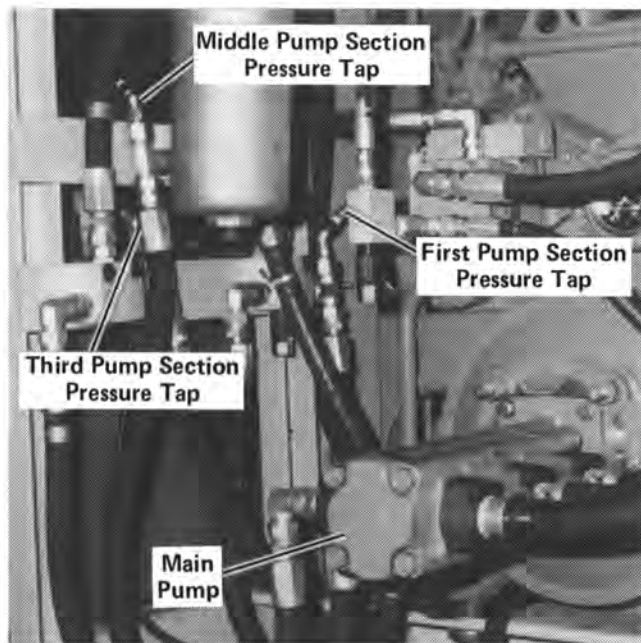

Figure 28
1. Install the pressure gauge on the pressure tap at the first pump section, (nearest pump shaft) relief valve. See Figure 28.
4. Install the pressure gauge on the pressure tap at the middle pump section relief valve. See Figure 28.
5. Install the pressure gauge on the pressure tap at the third pump section relief valve. See Figure 28.